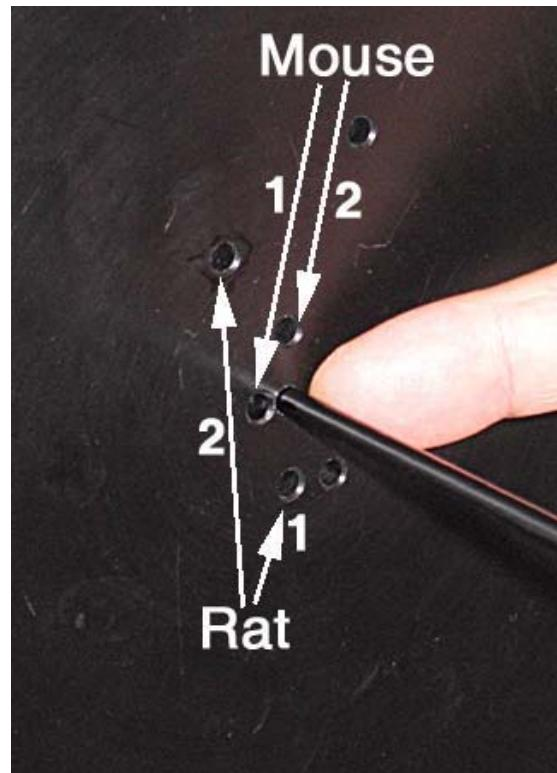

Figure 7-38
- b. Mount the alignment jig(the same jig that was used for the slit collimator geometry calibration) on the outside of the collimator mounting plate (Figure 7-38).